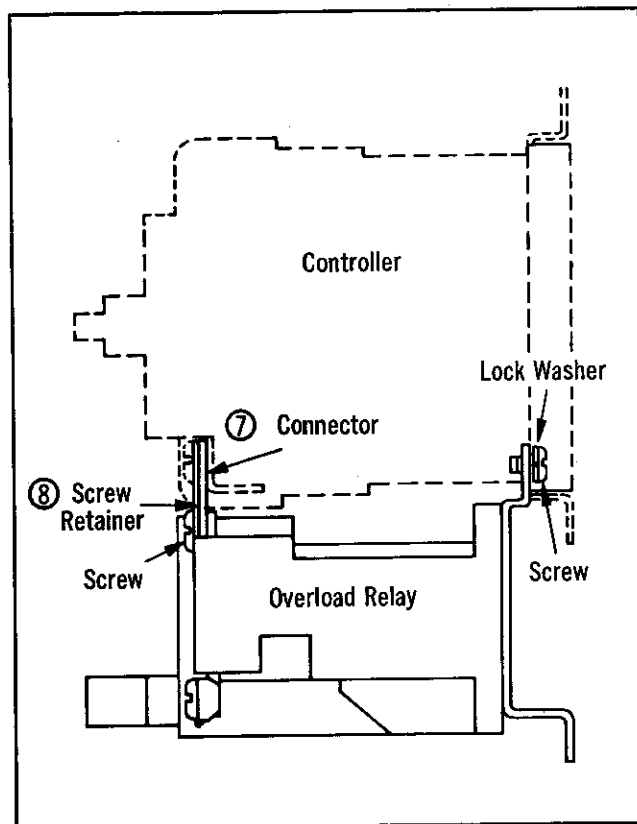

Figure 3 - Overload Relay Mounted on A/200 Motor Controller
The relay is available either for panel mounting or for mounting on an A/200 Series Motor Controller. Overload relays for controller mounting have the necessary hardware and connectors included and should be installed as shown in Figure 3 with the connectors (7) and screw retainers (8) having their slotted ends toward the controller.